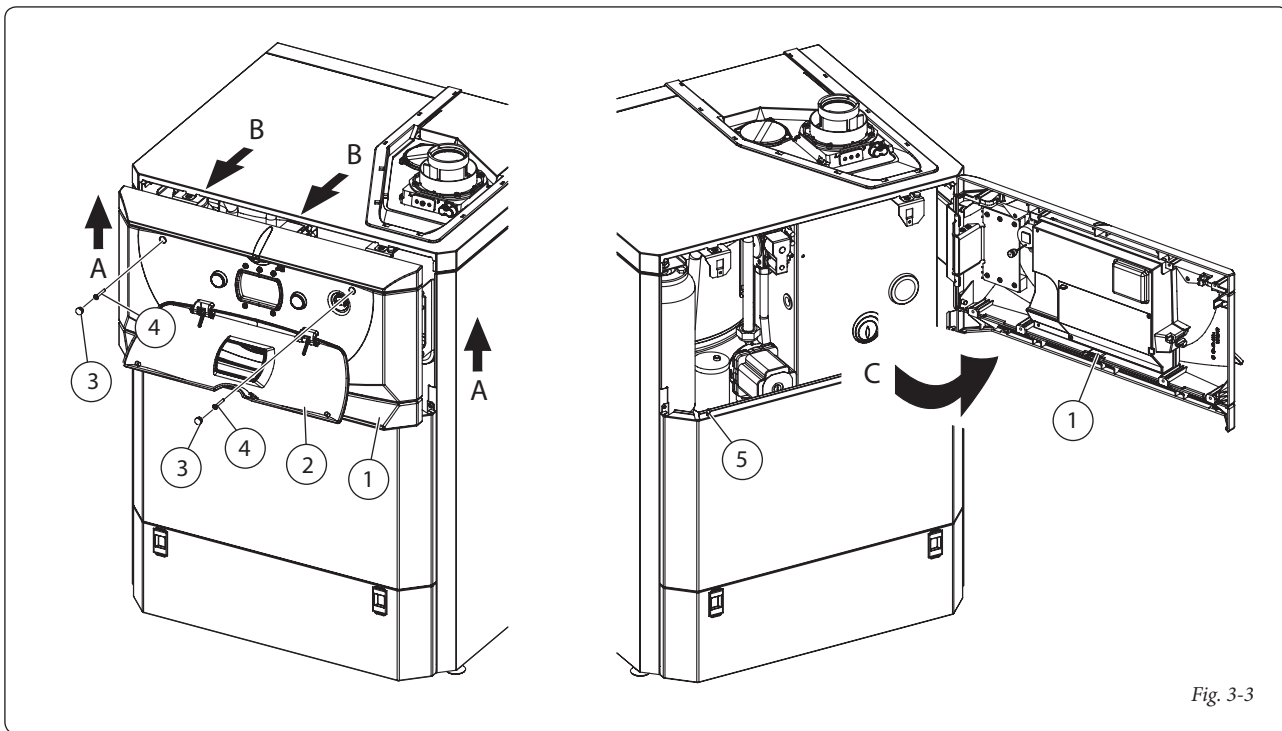

Fig. 3-3
- Open the control panel (item 1, Fig. 3-3).
- Press the centre of the control panel cover (2) to open it and lower the panel.
- Carefully remove the rubber bump stops (3) and loosen the two screws (4).
- Step A. Lift the control panel up, gripping it at the sides, to disengage it from the locking pin (5).
- Step C. Hinge open the panel as shown in Fig. 3-3.